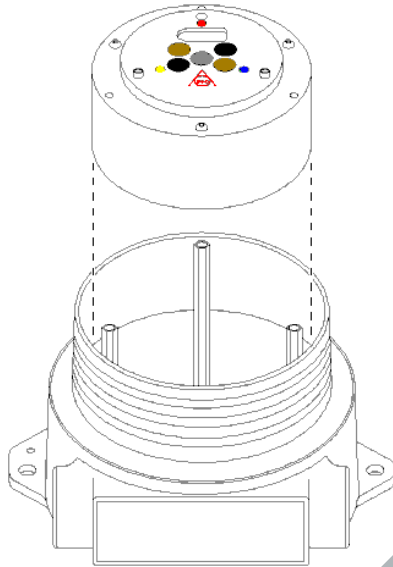

Figure 14. Removing the electronics module
- Slide the module out of the enclosure base (Figure 14).